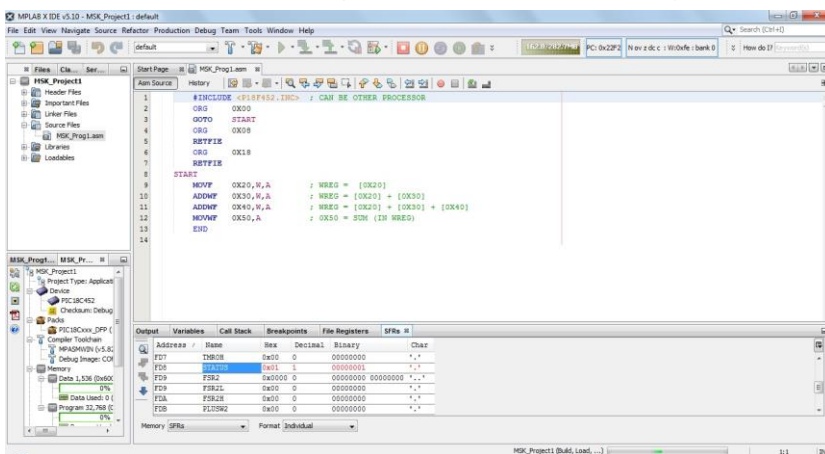

Fig 4.23 SFRs
19. You may enter the required values in the respective File Register - memory locations as shown in Fig 4.22 by double clicking on respective location. The SFR window is shown in Fig 4.23.